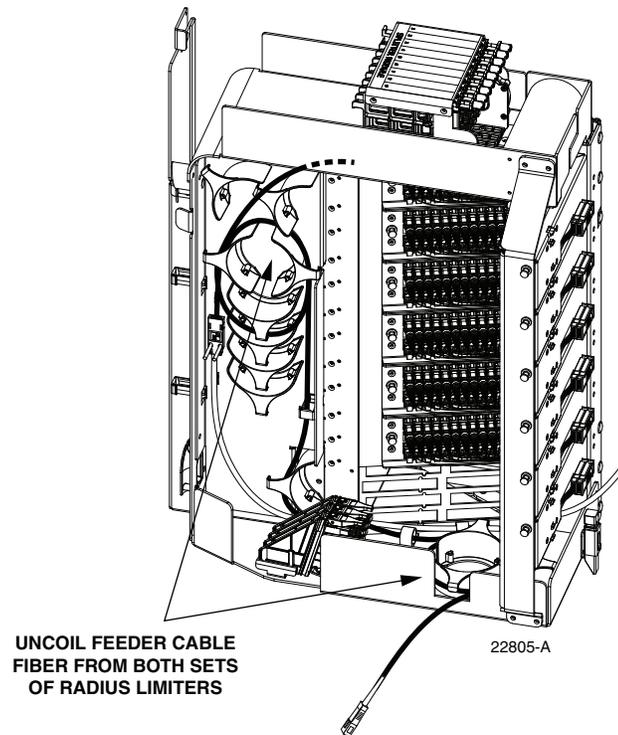

Figure 19. Uncoiling the Feeder Cable Fiber
5. Carefully unwind the feeder fiber from the radius limiters located on the bottom and on the left side of the swing-out assembly. Figure 19 shows the section of the fiber that will need to be released for re-routing. When necessary, backfeed the fiber to free the connector from the remaining fibers.